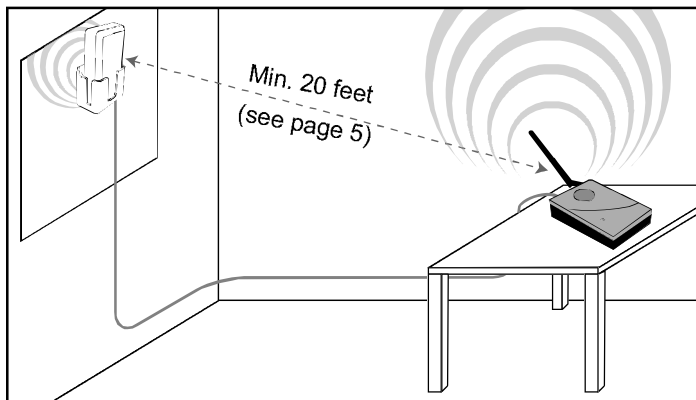

Figure 10
1. Select a location on the inside of the window as high as possible and at least 20 feet from where the amplifier will be located (see Figure 10).